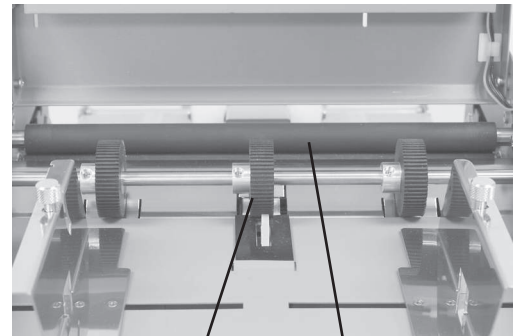

Fig. 42a
1. Make sure machine is turned off and unplugged. All folder/sealers have three infeed tires, four rubber fold rollers and two metal seal rollers (Fig. 42a).